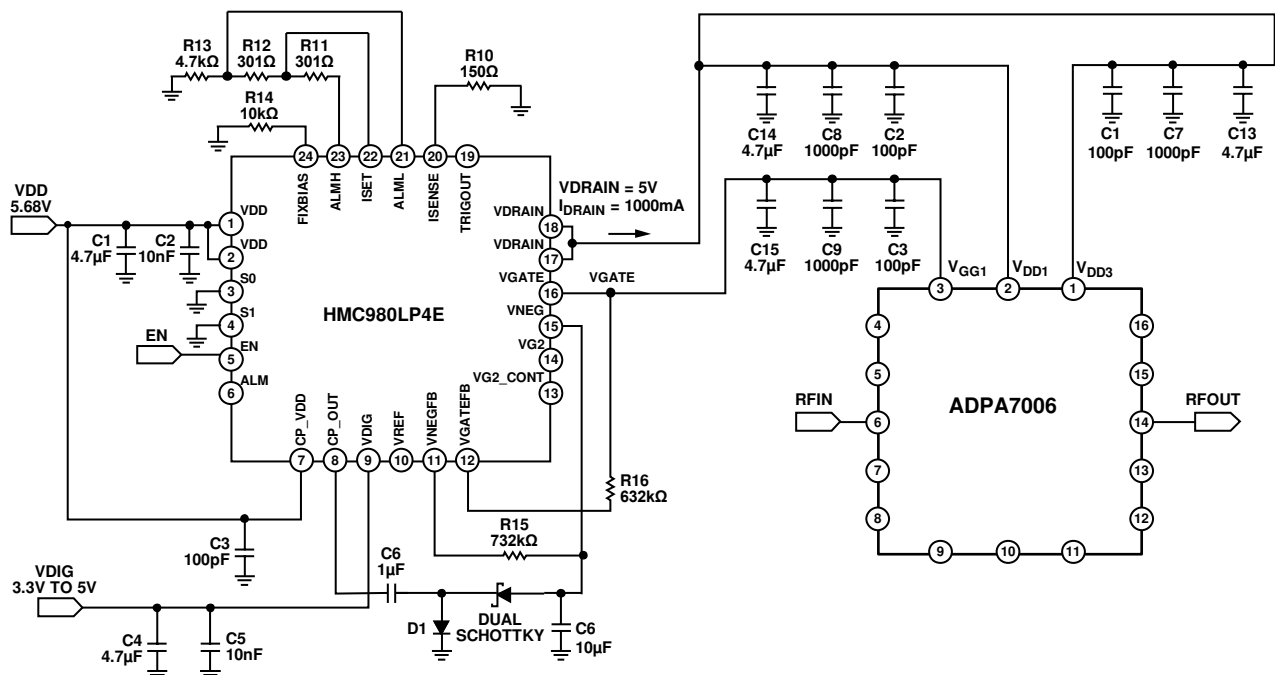
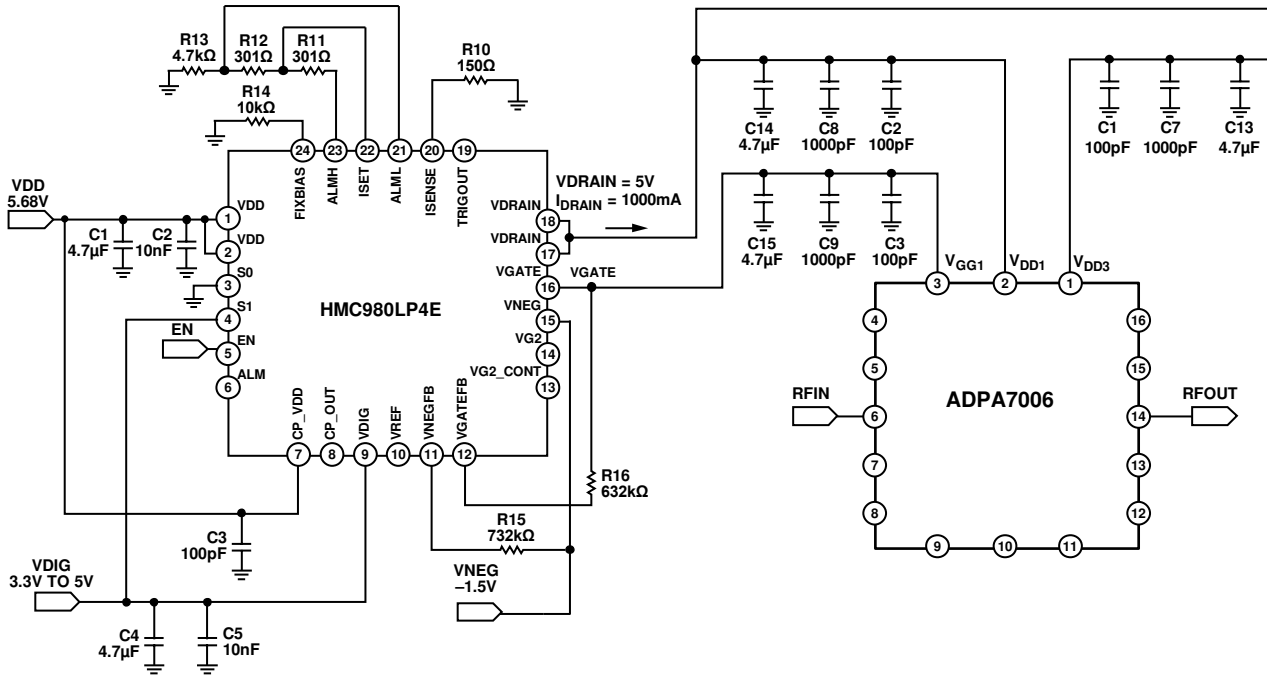

Figure 55. Application Circuit Using the **HMC980LP4E** with the ADPA7006
Figure 56. Application Circuit Using the HMC980LP4E with the ADPA7006 as an External Negative Voltage Source
When using an external negative supply for VNEG, refer to the schematic in Figure 56.
When using the ADPA7006 to control the **HMC980LP4E**, the minimum voltages for the VNEG and VGATE pins of the **HMC980LP4E** must be set to  $-1.5 \text{ V}$  to keep these voltages within the absolute maximum ratings limit for the ADPA7006  $V_{GG1}$  pin. To set the minimum voltages, set the R15 and R16 resistors to the values shown in Figure 55 and Figure 56. Refer to the [AN-1363 Application Note, Meeting Biasing Requirements of Externally Biased RF/Microwave Amplifiers with Active Bias Controllers](#), for more information and calculations for R15 and R16.
1. Set VDIG, the voltage supply input (Pin 9) for the HMC980LP4E digital circuit (see Figure 56), to 3.3 V.
3. Connect S1, the digital control pin (Pin 4) that sets the internal field effect transistor (FET) and the internal HMC980LP4E resistor ( $R_{DS\_ON}$ ) resistance (see Figure 56), to VDIG (3.3 V).